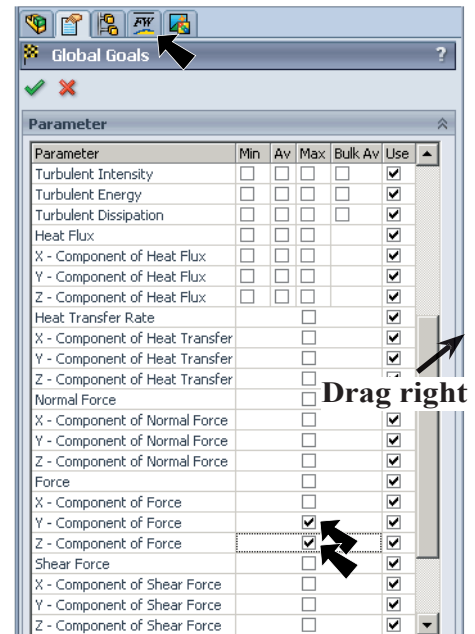

Fig. 14
- Step 2. Click the COSMOSFloWorks tab  in the Feature Manager, **Fig. 14**.
- Step 4. Drag the edge of the Feature Manager to the right to expand, **Fig. 14**.